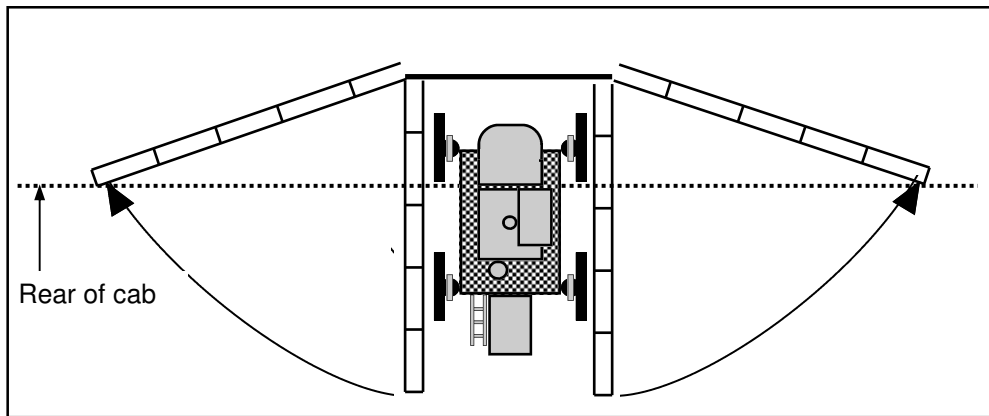

FIG. 4.59-1
3. With the booms folded, horizontally extend the booms so that the folded tip is approximately even with the rear of the cab.	59; FIGURE 4.59-1
OPENING THE BOOM– The booms must be partially open to keep them stable while off the machine . Open the booms so that the stand on the end of the first section is even with the rear of the cab (fig. 4.59-1).